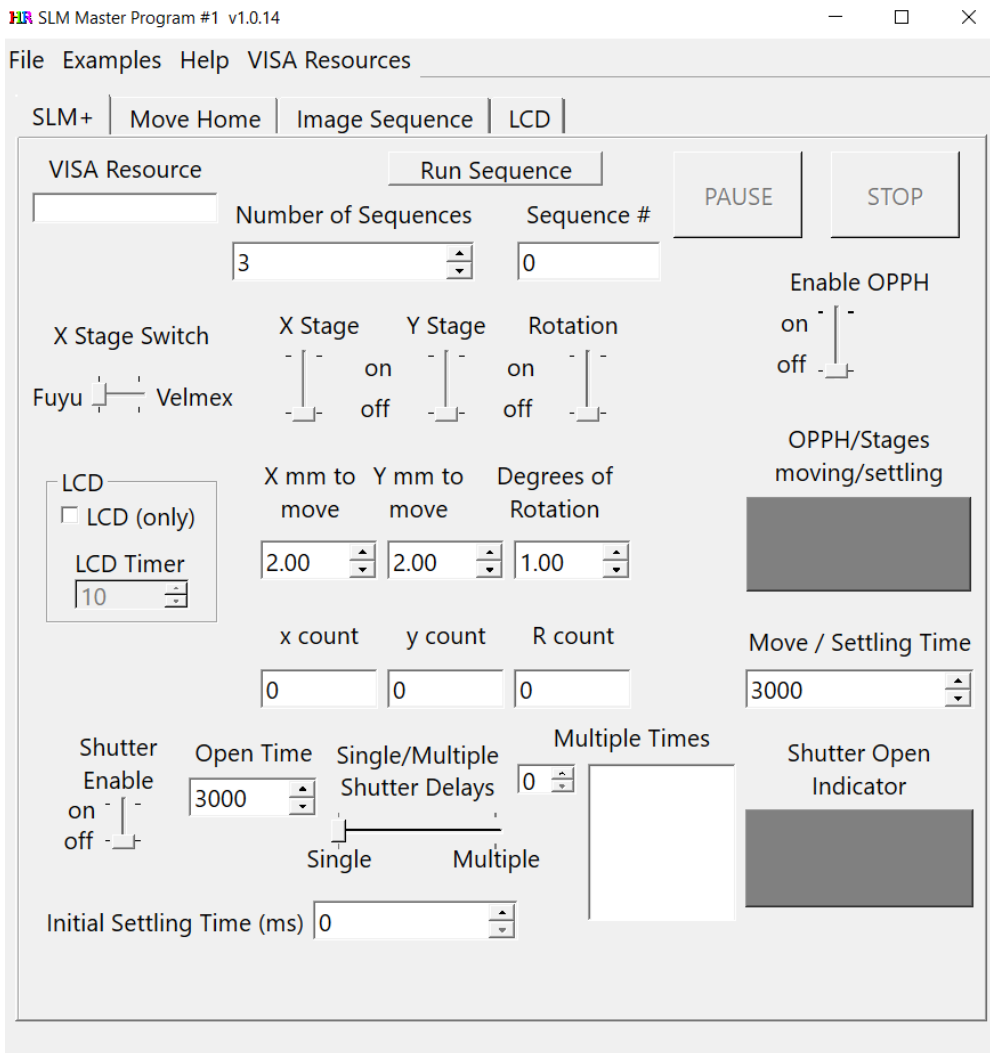

Figure 2 Main SLM+ tab to which program opens.
**SLM+ opens to the SLM+ tab.** See Figure 2.
**SLM+ tab Entry and notification windows, switches and notification rectangles from left to right, top to bottom:** See Figure 2